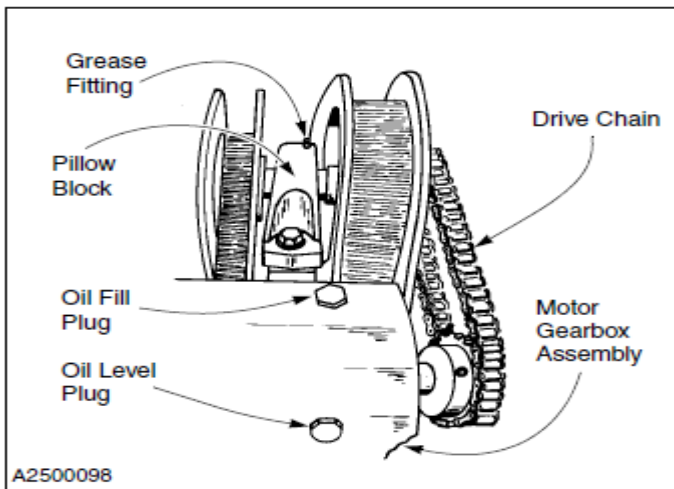

Figure 37
2. **Drive Chains:** The drive chains should be lubricated with a good-quality grade of heavy lubricating oil. (See Figure 37)
3. **Pillow Block Bearings:** Each end of the fabric drum is supported by a pillow block bearing. At the grease fitting on each bearing, lubricate the bearings using a lithium-based grease conforming to NLGI, Grade 2 Standard. Use a medium-viscosity, low-torque grease with an approved operating temperature range of -30° to $+200^{\circ}\text{F}$. (See Figure 37)